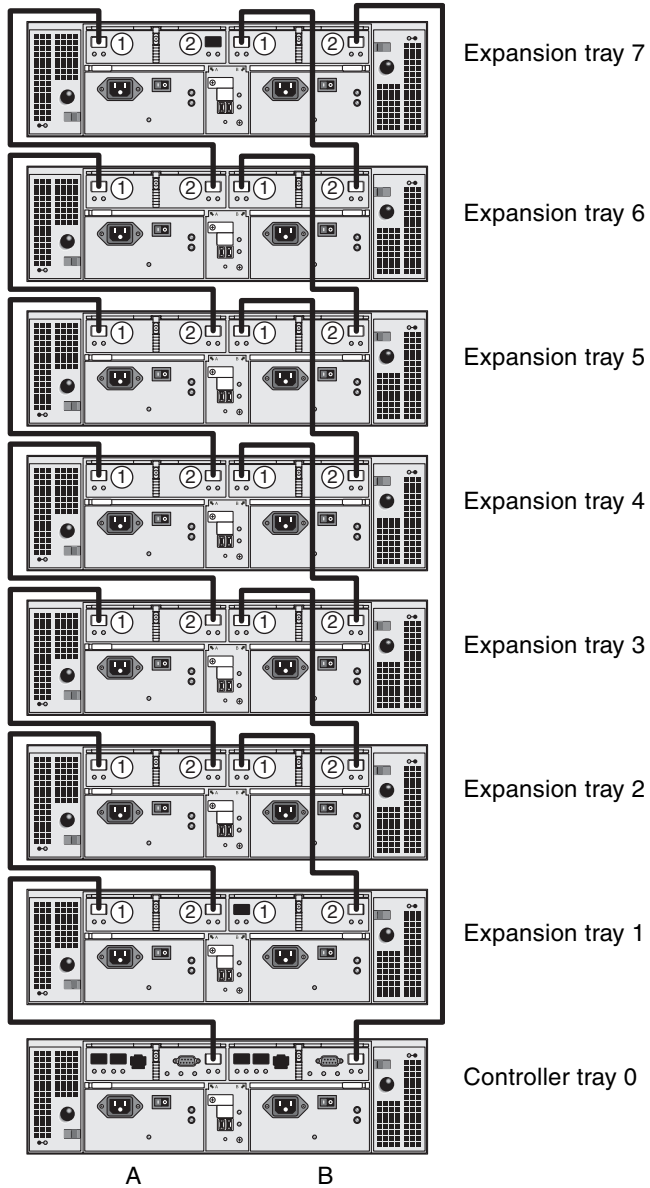

FIGURE 2-41 1x8 Array Configuration Cable Interconnection
3. Connect one FC cable between the A side expansion port of controller tray 0 and the A side port 1 of expansion tray 1 (FIGURE 2-41).
4. Connect one FC cable between the A side port 2 of expansion tray 1 and the A side port 1 of expansion tray 2 (FIGURE 2-41).
5. Continue to connect one FC cable between the A side port 2 of each expansion tray and the A side port 1 of the expansion tray directly above it, until the A sides of all expansion trays are interconnected with FC cables (FIGURE 2-41).
6. Connect one FC cable between the B side expansion port of controller tray 0 and the B side port 2 of expansion tray 7 (FIGURE 2-41).
7. Connect one FC cable between the B side port 1 of expansion tray 7 and the B side port 2 of expansion tray 6 (FIGURE 2-41).
8. Continue to connect one FC cable between the B side port 1 of each expansion tray and the B side port 2 of the expansion tray directly below it, until the B sides of all expansion trays are interconnected with FC cables (FIGURE 2-41).